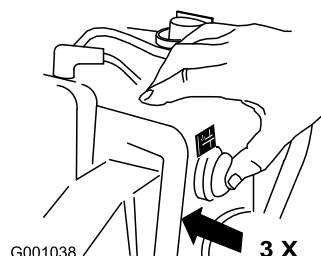

Figure 25
6. Firmly push in the primer 3 times with your thumb, holding the primer in for a second before releasing it each time (Figure 25).